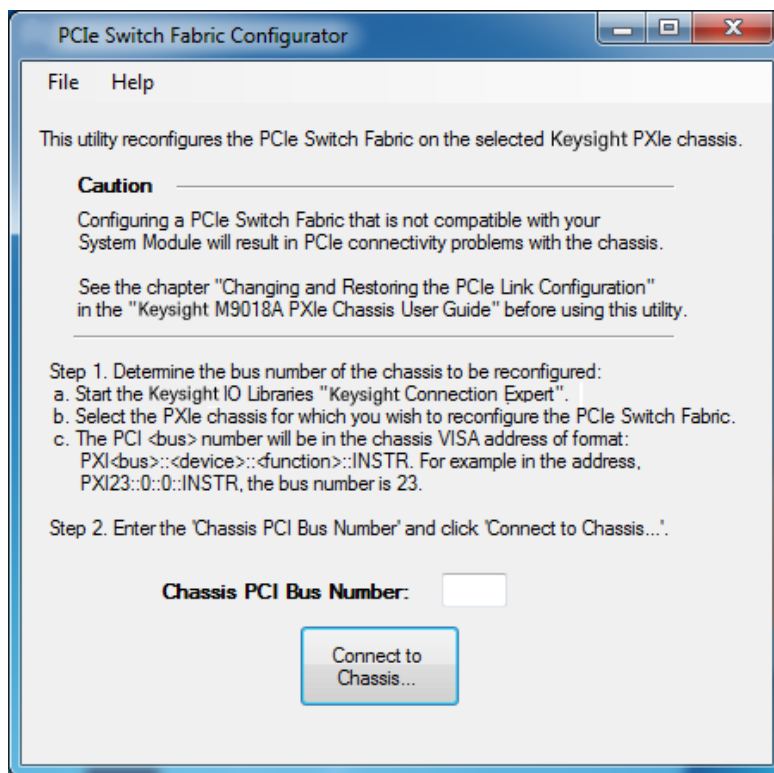

Figure 42 Configurator startup dialog
- 1 The **Configurator** utility program is available from the Windows **Start** button; select **All Programs > Keysight > M9018 > PCIe Switch Fabric Configurator**. This opens the dialog shown in Figure 42.
- 2 Follow the instructions to enter the chassis bus number. (See also Figure 42)